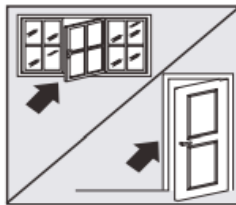

Fig. 11
- Close the windows and doors in the room to be air-conditioned (Fig. 11). When installing the appliance semi-permanently, you should leave a door slightly open (as little as 1 cm) to guarantee correct ventilation;